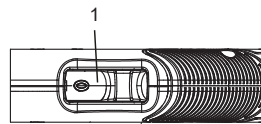

Fig. 3
To turn the Blower/Sweeper ON, slide the ON/OFF switch (1) forward (Fig. 3). To turn the Blower/Sweeper OFF, slide the ON/OFF switch toward the rear of the tool.